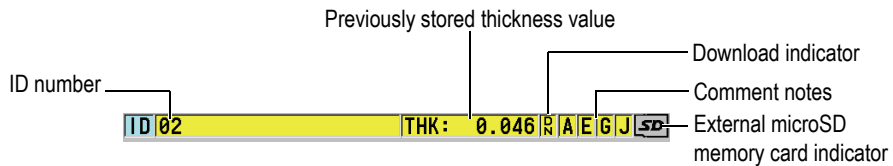

Figure 3-2 The ID bar
The ID bar, located at the top of the measurement screen, contains the ID for the actual thickness measurement location, the previously stored value, and comment notes indicators (see Figure 3-2 on page 34). The download indicator (R) appears when the previously stored thickness measurement comes from a file rather than from a newly acquired value.